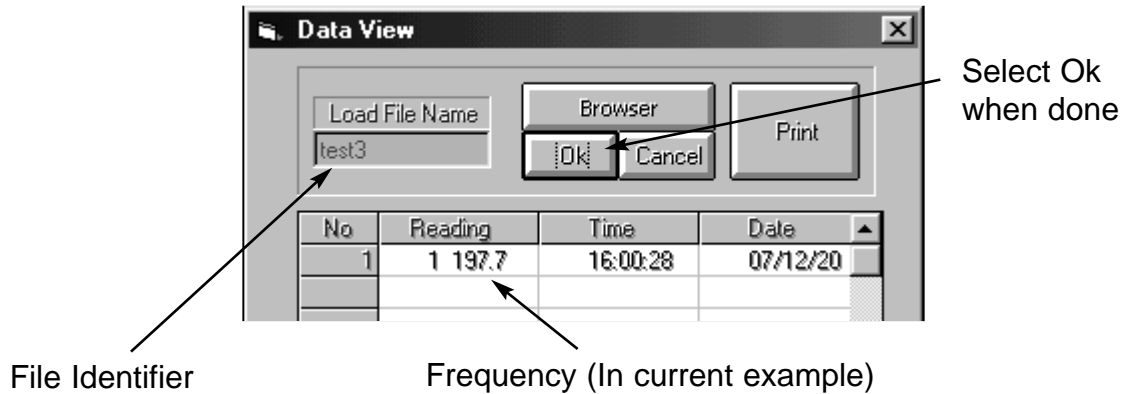

Figure D-4. Waveform Load Example
3. Press **Load** for Channel 1, and enter the load identifier into the entry box. Use the Browser utility if needed. Then click **Ok**. (See example in Fig. D-4). The result will be the waveform previously recorded.